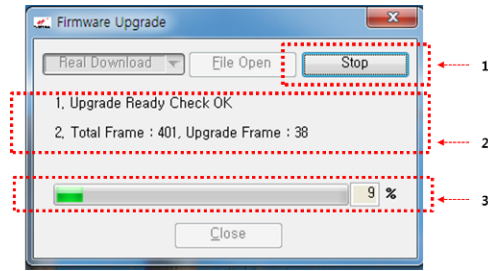

Figure 7-3: Firmware Update Status
6. Click in the Firmware Version Check dialog window, Figure 7-3. The firmware upgrade begins, as indicated by the progress bar in the Firmware Version Check window, Figure 7-3.